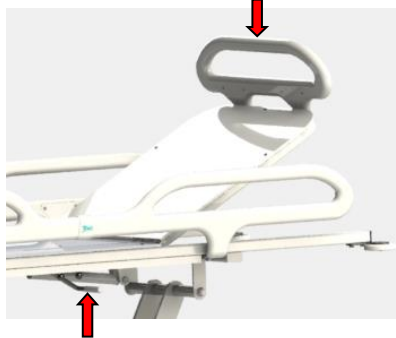

Figure 24
- 2) Pull the handle at the side of the mattress platform upwards, without forcing (fig. 24).